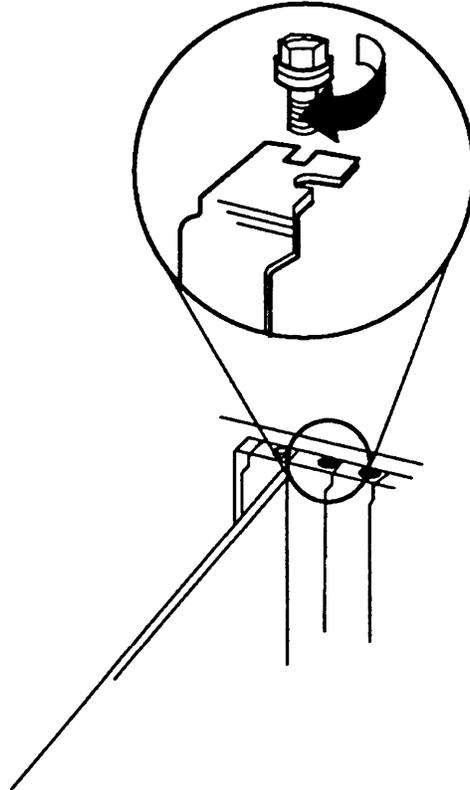

Figure 2-7. Securing the Board
4. Secure the expansion board in the computer chassis using the screw removed from the slot cover plate, as shown in Figure 2-7.